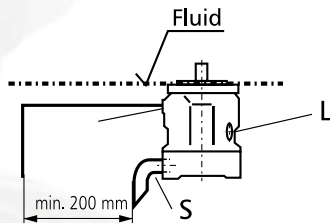

Fig. 1
- If the minimum fluid level is equal to or above the pump mounting face close port "L" plugged, leave ports "L₁" and "S" open; L₁ piped and recommendation S piped (see Fig. 1).